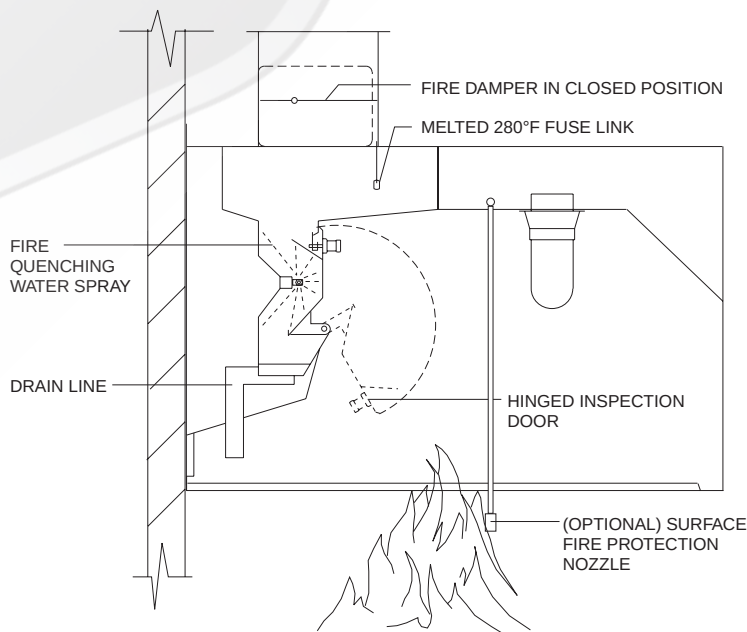

FIG. 13
1. The fire damper closes — stopping the combustion-supporting, natural draft through the ventilator. (Refer to Figure 13)